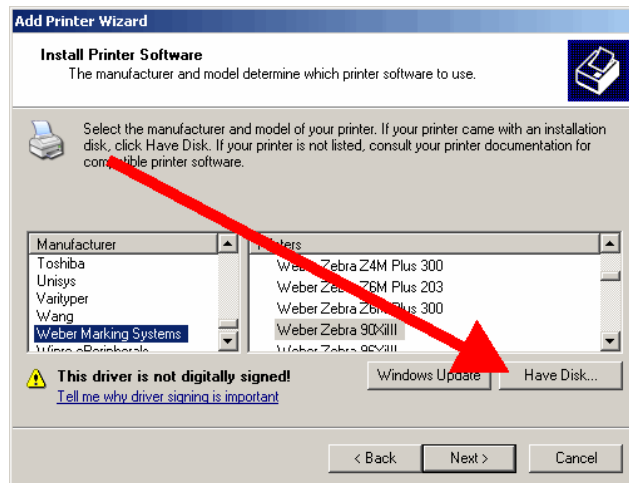

Figure 3-7
3.2.7. Click **[Have Disk]** when the list of manufacturers and printers on the *Install Printer Software* window comes up. (Figure 3-7)